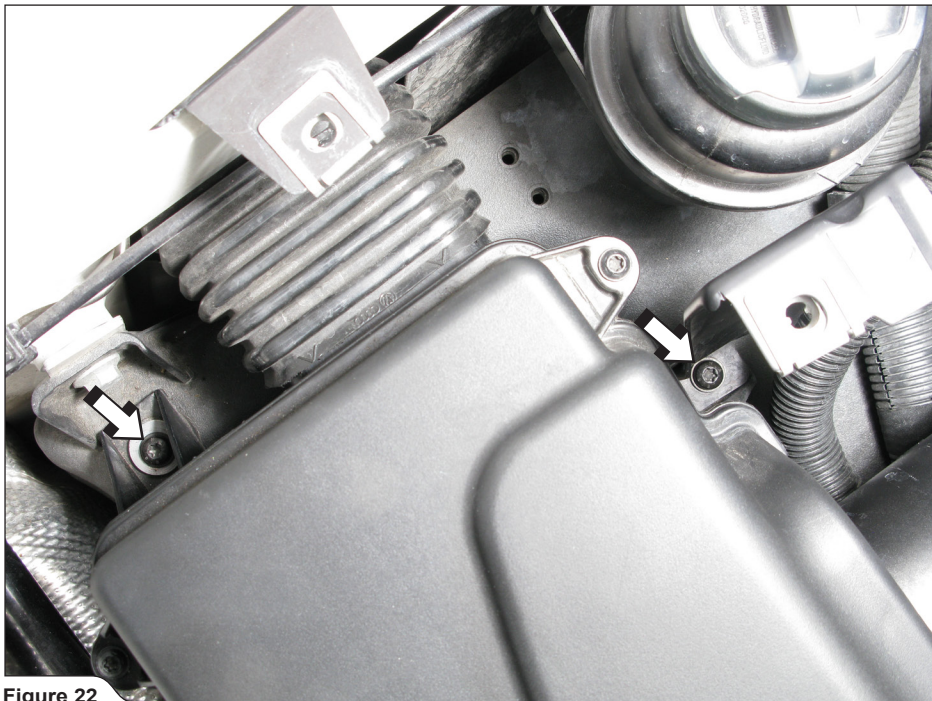

Figure 22
15. Unscrew the marked bolts on both sides of the air box and carefully remove the air box out of the engine compartment (**Figure 22**).